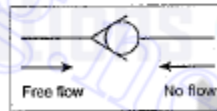

Fig. 7.4. Symbolic representation of a check valve
- ✓ The symbolic representation of a check valve, shown in Fig.7.4, illustrates its function clearly.